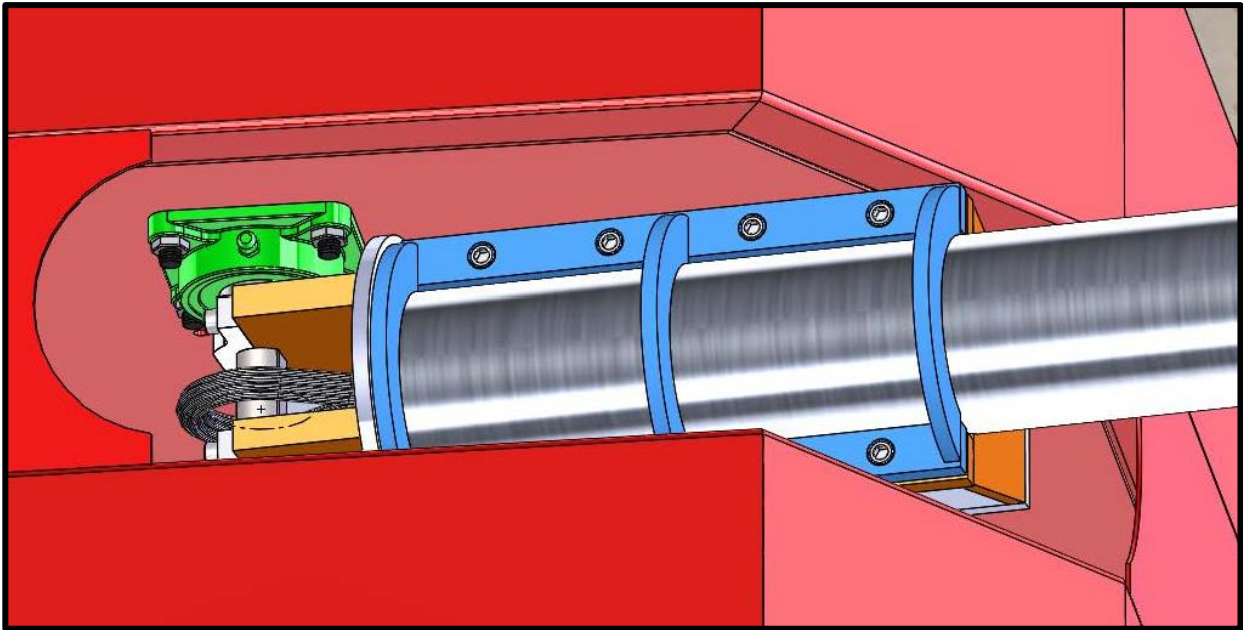

Figure 11 Upper Arm Clamp
3. Install upper bar clamp using 8 3/8" socket head cap screws. Do not tighten the socket head cap screws. This will be done at a later date. See figure 11.